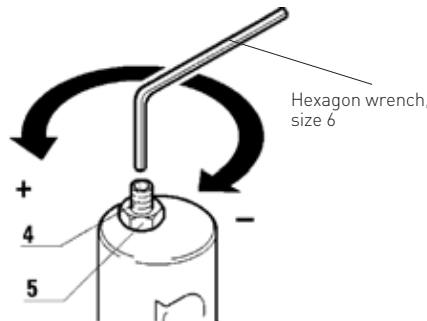

FIG. 10
7.2 Flow regulation (see fig. 10)